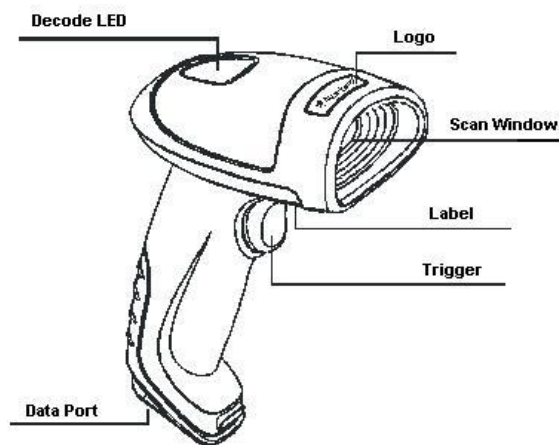

Fig. 1-1
1. Plug the RJ45 connector into the data port (see Fig.1-1) on the scanner.
- ✧ Press and hold the trigger (see Fig.1-1). Then the scanner will project a red aiming beam.